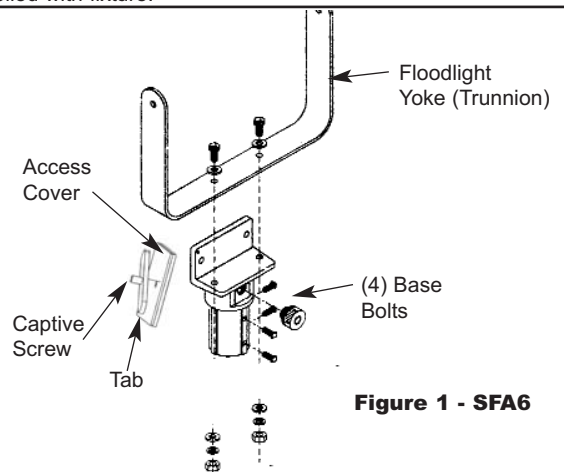
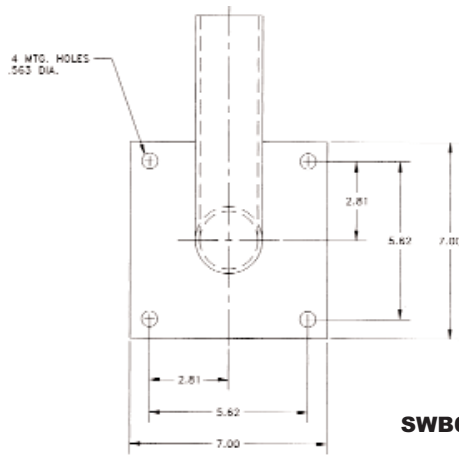

Figure 1 - SFA6
Figure 2 - SWB6 Bolt Hole Pattern
1. Using the ½" bolts, nuts and lock washers provided, securely fasten the floodlight yoke to the flange on the SFA6 slipfitter. Refer to Figure 1 for slipfitter dimensions. Torque the bolts to 45 lbs-ft.
1. Determine the mounting location of the SWB6 bracket using the bolt hole pattern shown in Figure 2.
2. Mount the SWB6 bracket (with elbow pointing up) using four (4) ½" bolts or lag screws (not provided) or by welding in position.
3. Using the ½" bolts, nuts and lock washers provided, securely fasten the floodlight yoke to the flange on the SFA6 slipfitter. Refer to Figure 1 for slipfitter dimensions. Torque the bolts to 45 lbs-ft.